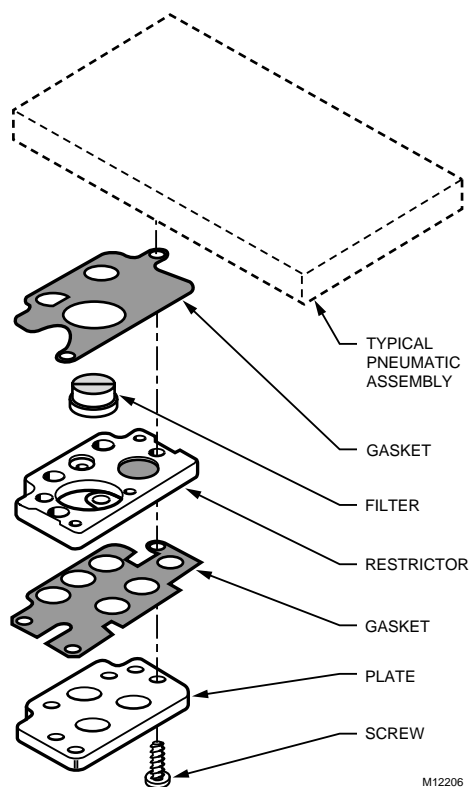

Fig. 19. Restrictor Block and Filter Replacement.
1. Remove the four Phillips head screws which fasten the restrictor block and filter (Fig. 19) to the back of the thermostat.